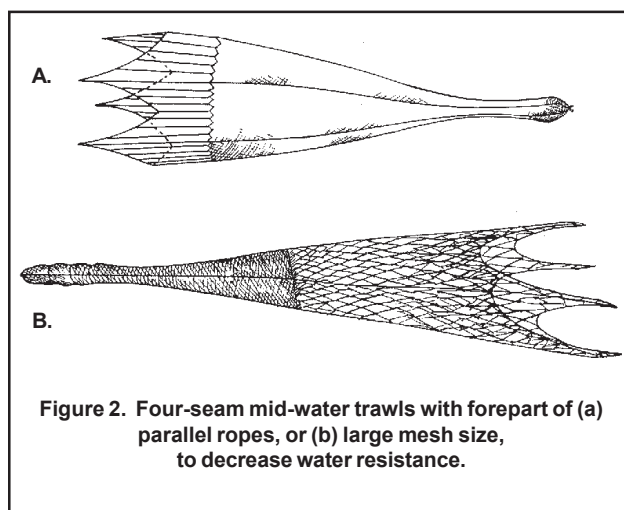
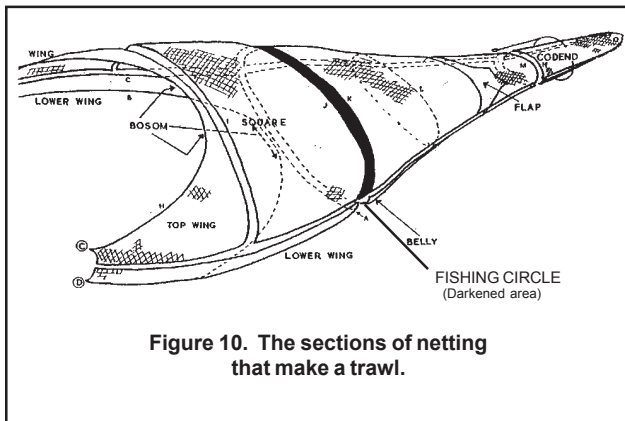

Figure 2. Four-seam mid-water trawls with forepart of (a) parallel ropes, or (b) large mesh size, to decrease water resistance.
Figure 10. The sections of netting that make a trawl.
6. CONSTRUCTION: Record the type of net construction (see Figure 2) used in the forward portion of the net by placing an "X" next to the appropriate code:
28. NUMBER OF MESHES: Record the number of meshes in the fishing circle. This information may be obtained from the captain. Do not include the meshes in the gore. See the definition of fishing circle in the introduction and Figure 10.
29. MESH SIZE: Record, in whole centimeters, the predominant **inside** mesh measurement from the fishing circle. This information may be obtained from the captain. See the definition of fishing circle in the introduction and Figure 10.
NOTE: See Figure 2 in the Otter Trawl Gear Characteristics Log Instructions for an illustration of mesh measurement.
NOTE: See Figure 10 for the location of the codend, and Figure 2 in the Otter Trawl Gear Characteristics Log Instructions for an illustration of diamond and square hanging configurations.
NOTE: See Figure 2 in the Otter Trawl Gear Characteristics Log instructions for an
NOTE: See Figure 2 in the Otter Trawl Gear Characteristics Log for an illustration of mesh measurement. See also Appendix P. Vernier Caliper Instructions for further information.
- 4 = Guiding Device, *i.e.* a funnel or "flap" (see Figure 10 and 11).